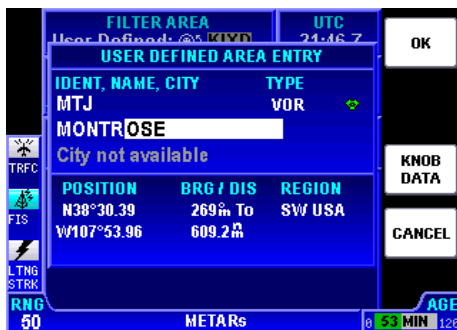

Figure 2-68
6. Press the **NOB SCAN** Softkey and Figure 2-68 will be displayed.